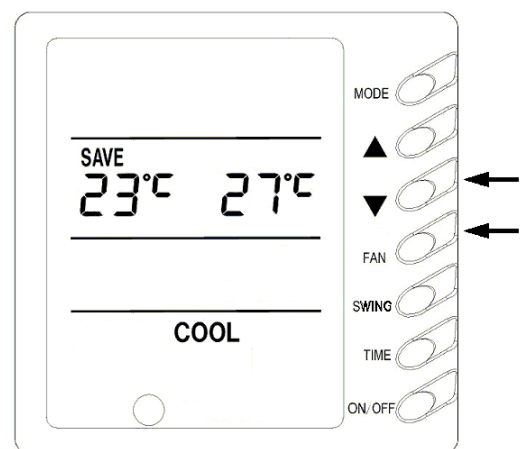

Fig.15
**8) Energy Saving Setting (Fig.15)**